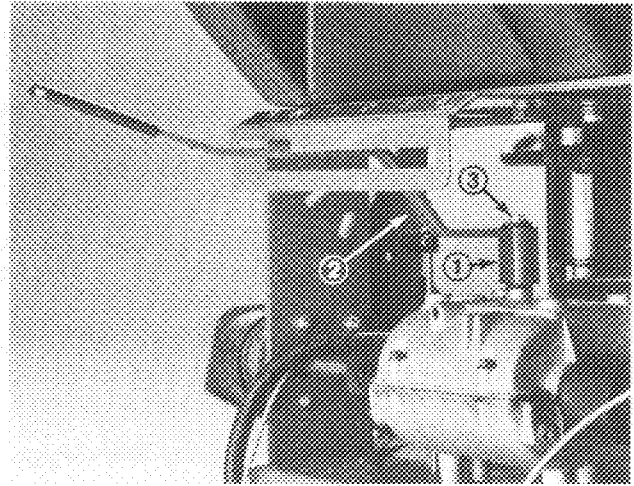

Figure 3
2. Insert shift lever thru slot in control panel and align mounting hole in lever with mounting block on transmission. Secure lever to transmission with 1/4-28 x 2" lg. capscrew and thick, black, washer. Torque capscrew to 100-125 in - lb (Fig. 3).